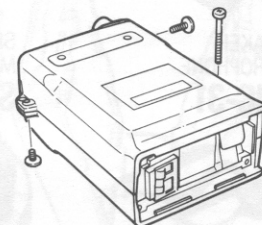

Fig 2.
4. Remove the three screws holding the front and rear of the case together. (Fig.2)